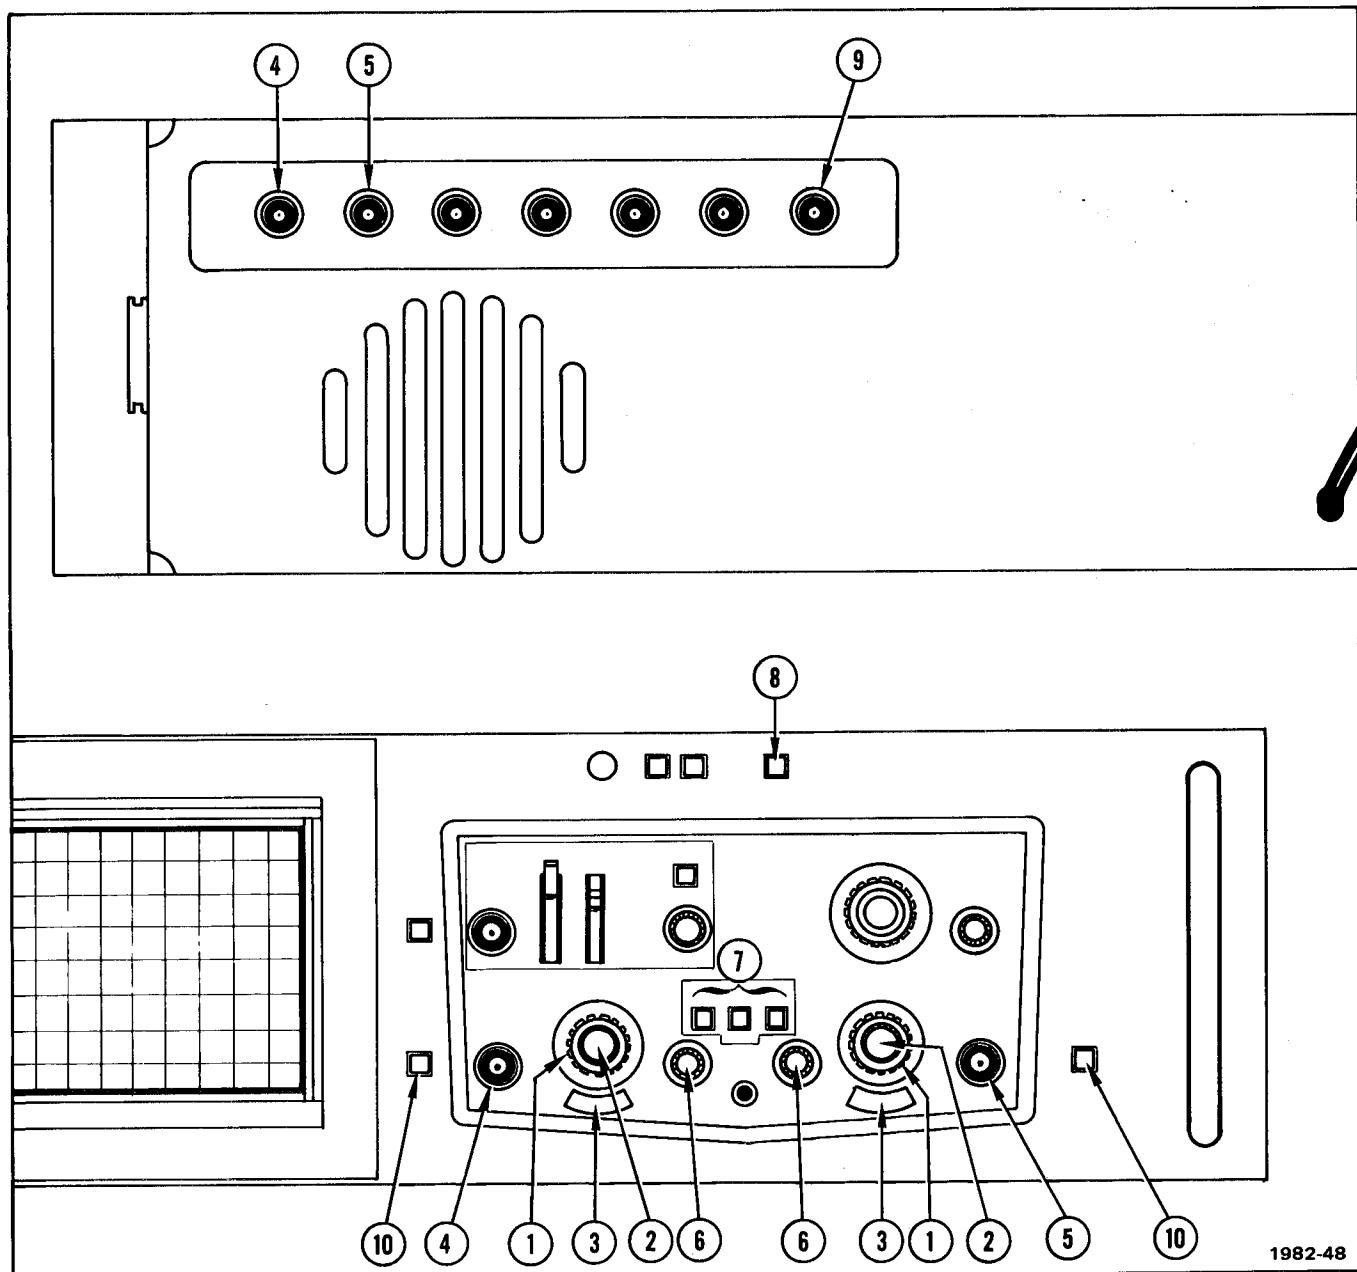

Fig. 2-8. T922R vertical amplifier controls, connectors, and indicators.
B. VERTICAL AMPLIFIER (FIG. 2-8)